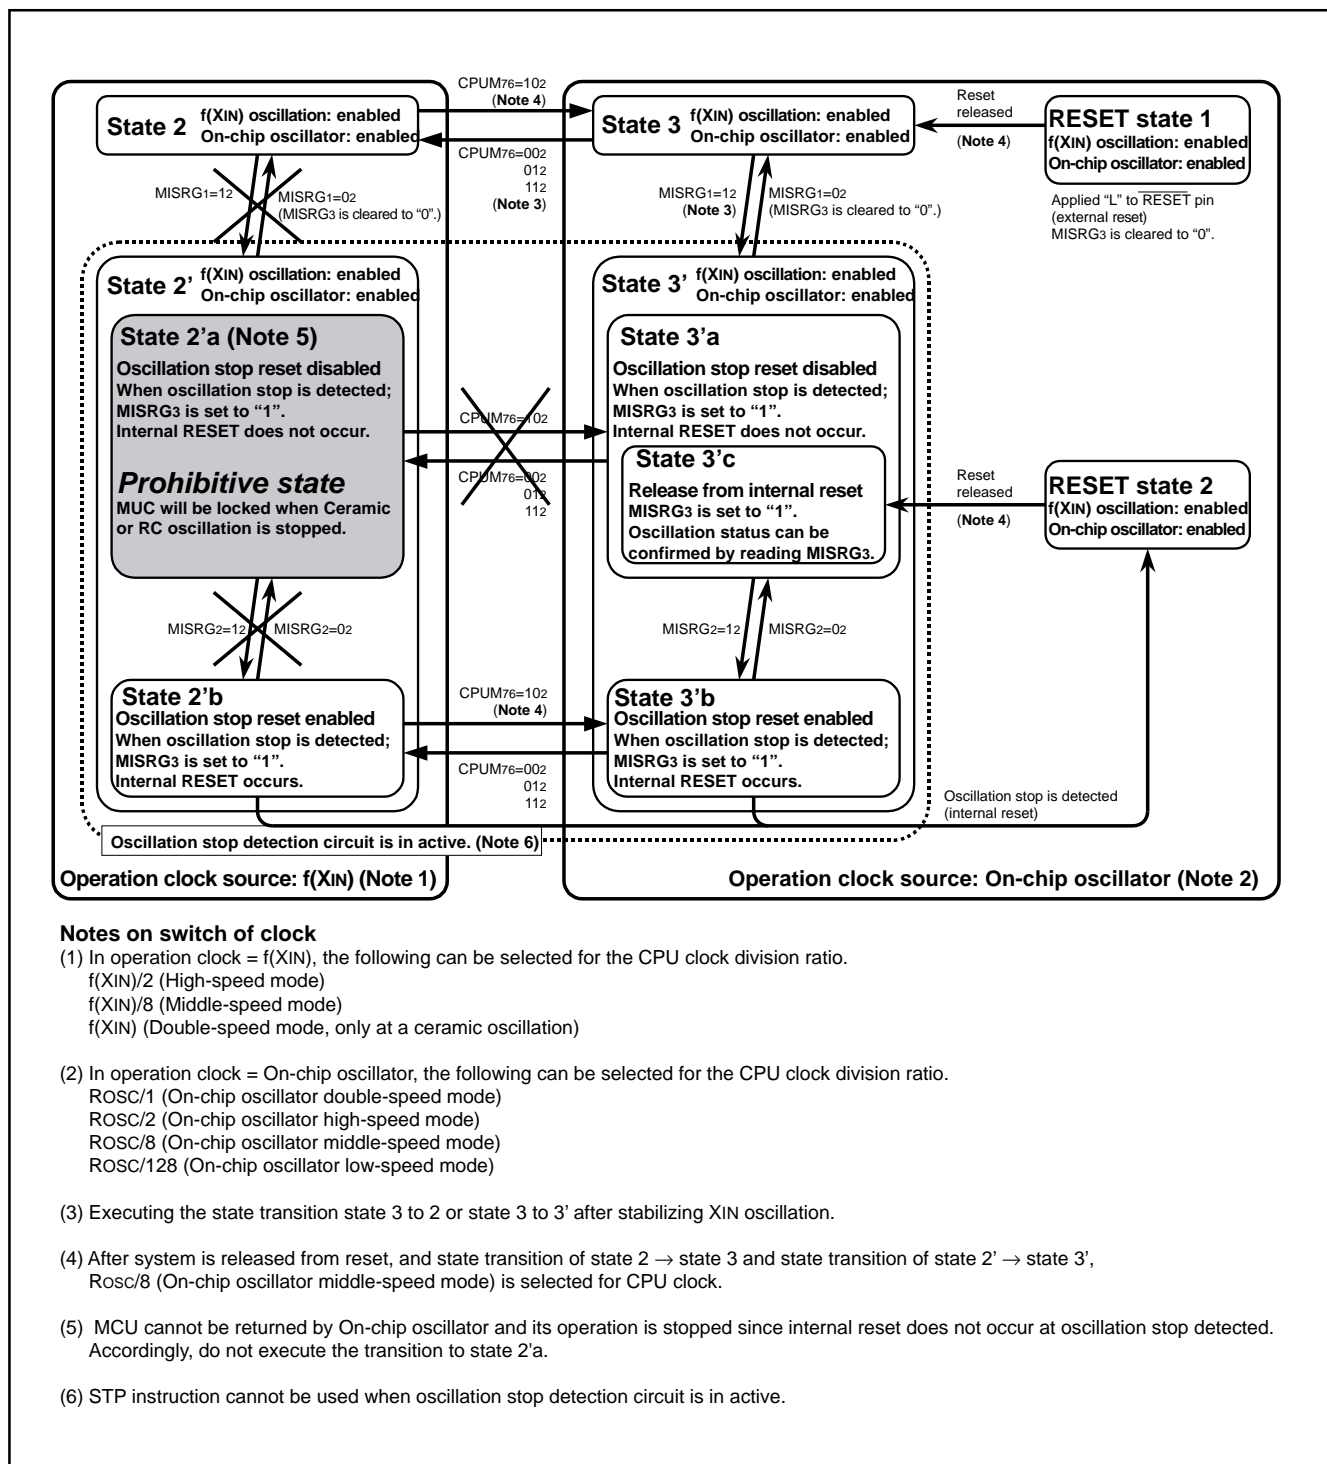

Fig. 77 State transition 2
- Do not execute the transition to "state 2'a" shown in Figure 77 because in this "state 2'a", MCU is stopped without reset even when XIN oscillation is stopped.
- (1) External reset
- (2) Write "0" data to the ceramic or RC oscillation stop detection function active bit.